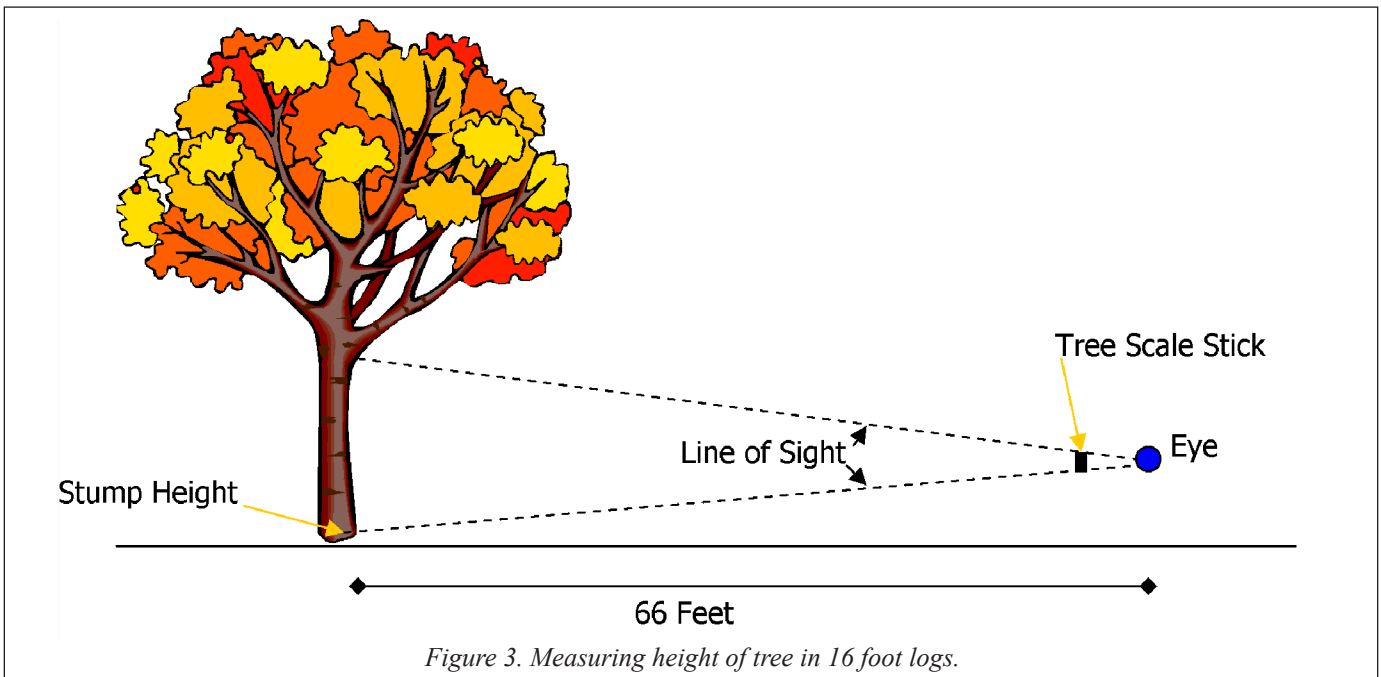

Figure 3. Measuring height of tree in 16 foot logs.
- Face the tree to be measured and hold the stick vertically at a distance of 25 inches from your eye (Figure 3). Be sure that the scale “Number of 16 foot logs” is facing you. As with measuring diameter, this distance of 25 inches is critical to obtain accurate measurements. Make sure that the stick is as close to vertical as possible. A forward or backward lean in the stick will cause you to overestimate merchantable heights.